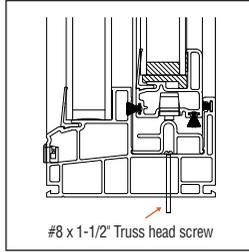

fig. 30
b. To fasten the sill of the slider you first remove the interior sash and then unsnap the bottom track and drill a 3/8" access hole through the first chamber of the frame and fasten through the access hole, it is important to seal the screws in silicone caulk and insert a 3/8" hole plug. **(fig. 30 & 30a)**